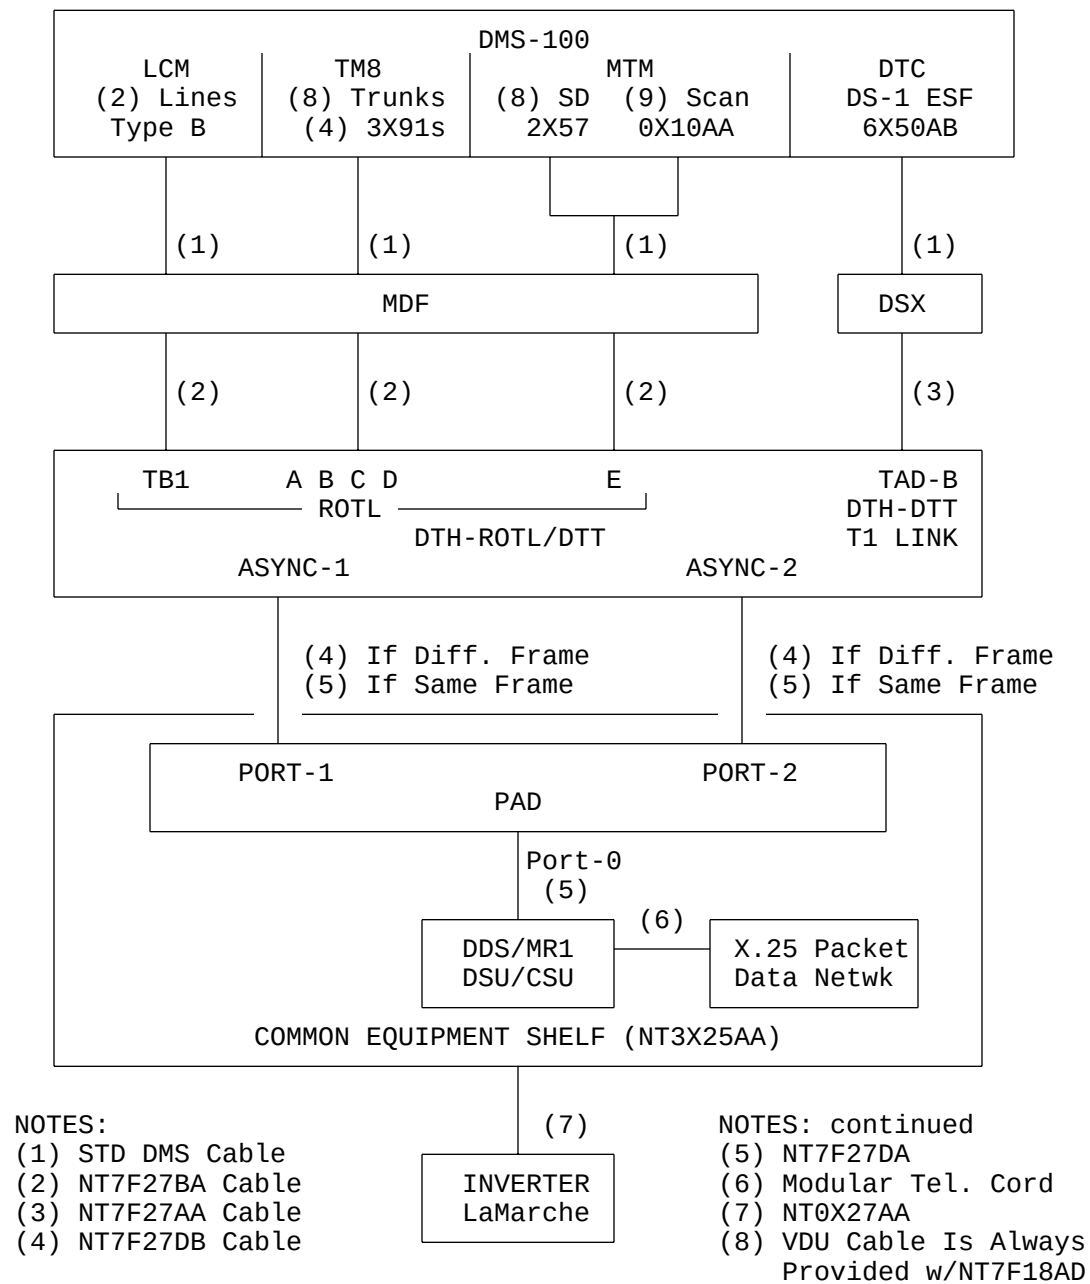

FIGURE 1: DTH-ROTL/DTT CONNECTIVITY DIAGRAM
3. Refer to Figure 1 attached for the DTH-ROTL/DTT Typical Cabling Diagram.